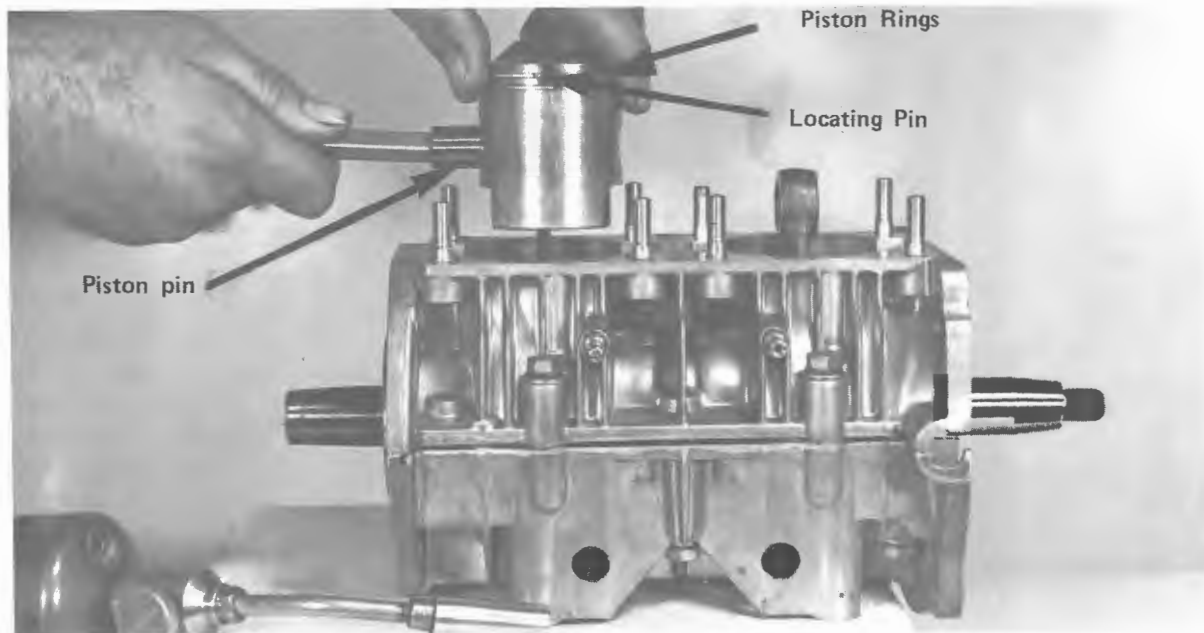

Fig. 5-3 Installing Pistons, Rings and Pins
5.2.2 Pistons, Piston Rings and Pins (See Figure 5-3)